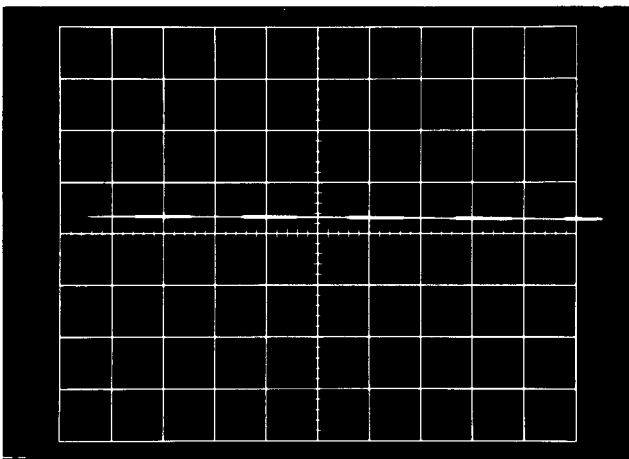

Fig. 5-3. External Crt Cathode check showing intensity modulation.
- r. Set the CRT CATHODE SELECTOR switch to EXT CRT CATHODE. Appreciable intensity modulation should be visible with the 3-volt signal applied. (See Fig. 5-3.)